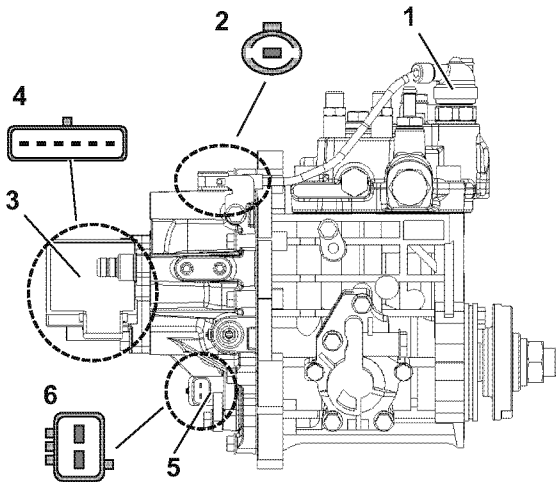

Figure 7-8
10. Remove the solenoid valve connector (**Figure 7-8, (2)**), rack actuator connector (**Figure 7-8, (4)**), and engine speed sensor connector (**Figure 7-8, (6)**).